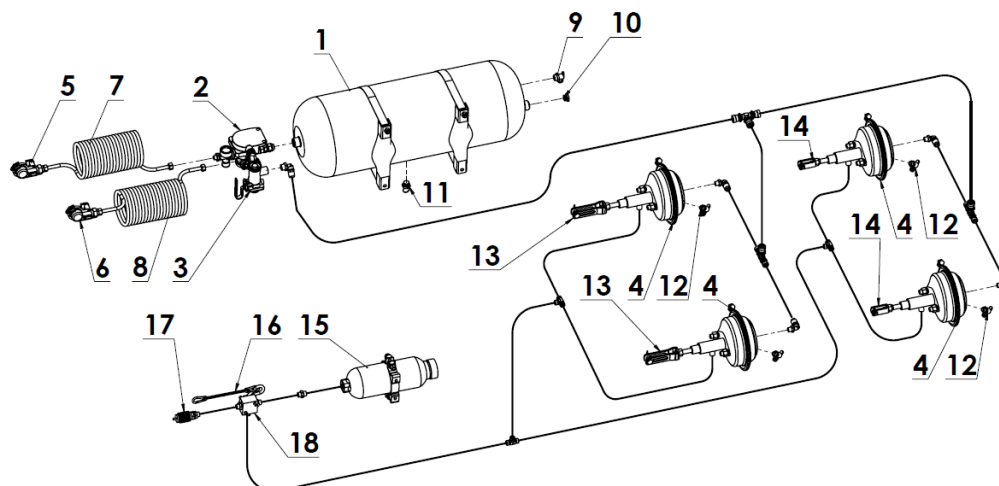

Figure 12 The pneumatic-hydraulic braking system - N267/2 Spreaders:
- Pneumatic-hydraulic braking system: N267/2 (Figure 12),
One more available option for the braking system is the hydraulic-pneumatic braking system. This system is a combination of the 2-line hydraulic and pneumatic braking systems. Depending on the type of trailer brakes featured in a particular tractor, it is possible to connect a hydraulic or a pneumatic braking system, respectively – see Figure 12.